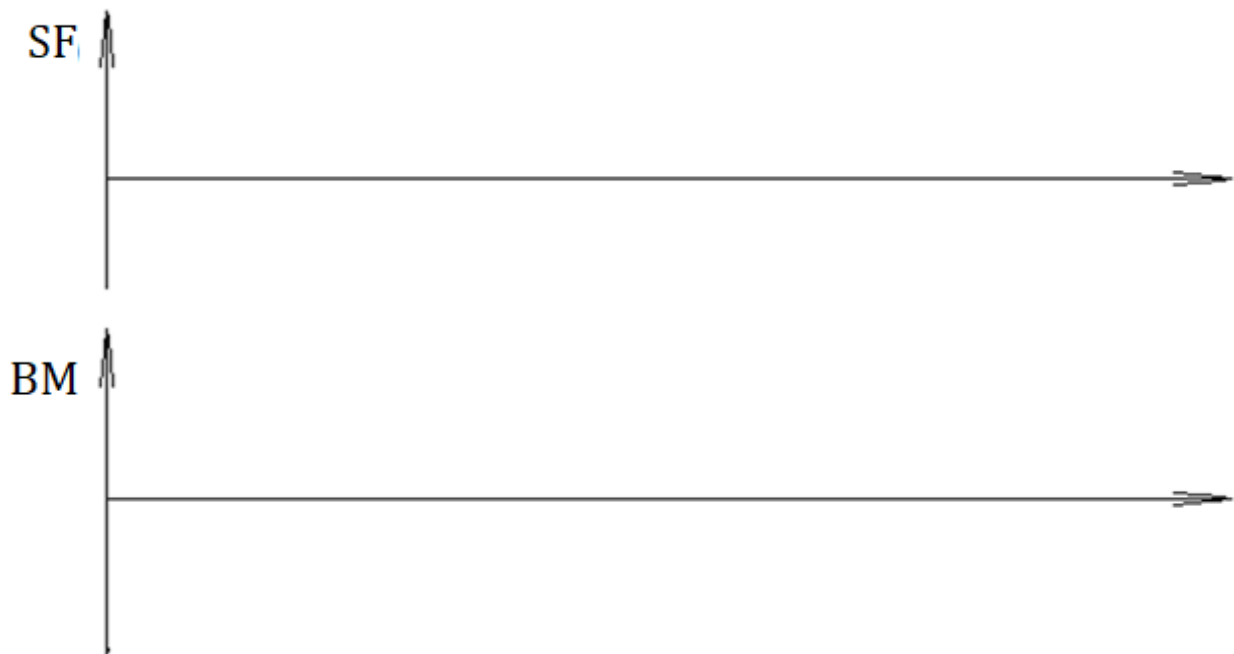

Figure Q4c
- Draw the shear force diagram and the bending moment diagram for the rocker loaded as above. You can use figure Q4c and remove it from the exam question book. **(10 marks)**